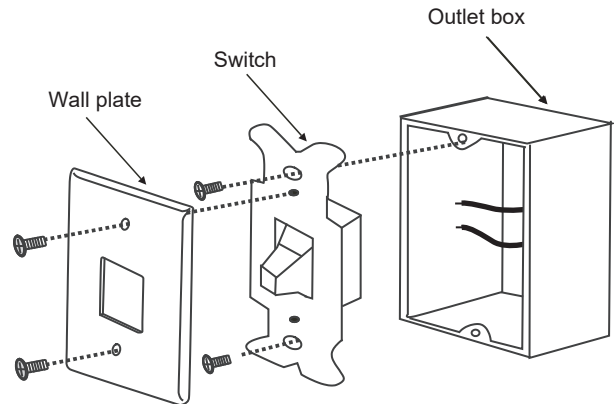

Figure 18
a. Remove the existing wall plate and the old switch from the wall outlet box. Wire nut the BLACK leads (hot) together and push back inside the outlet box. (Fig. 18)